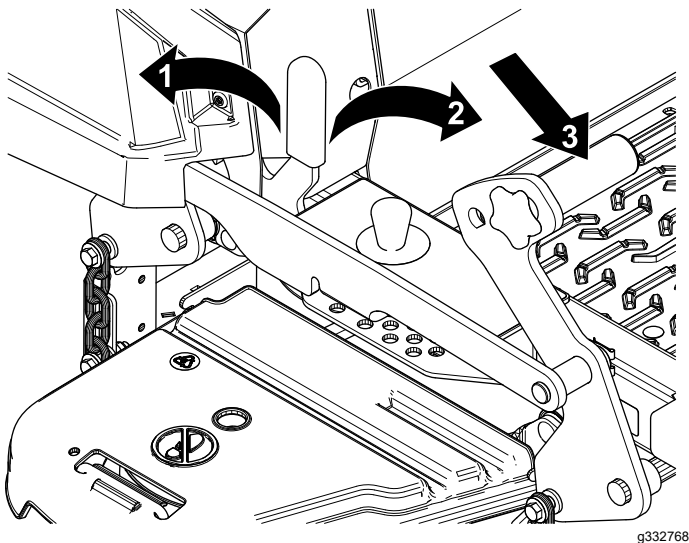

Figure 1
7. Push the deck-lift pedal fully forward to lock the mower deck in the TRANSPORT position (Figure 1).